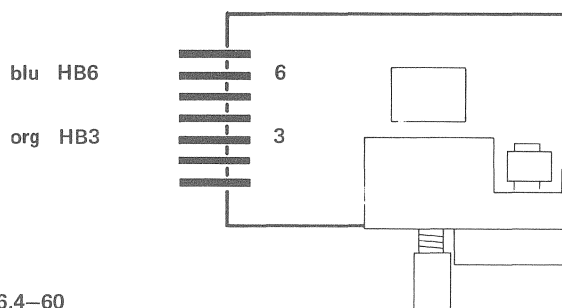

Fig. 6.4—60
- Oscillator frequency is measured with digital counter or oscilloscope. The frequency is 120 kHz (± 5 kHz) and is measured at orange HB3 and blue HB6 (fig. 6.4 —60) against ground. (Oscilloscope: 12 oscillations per 100 μ sec).